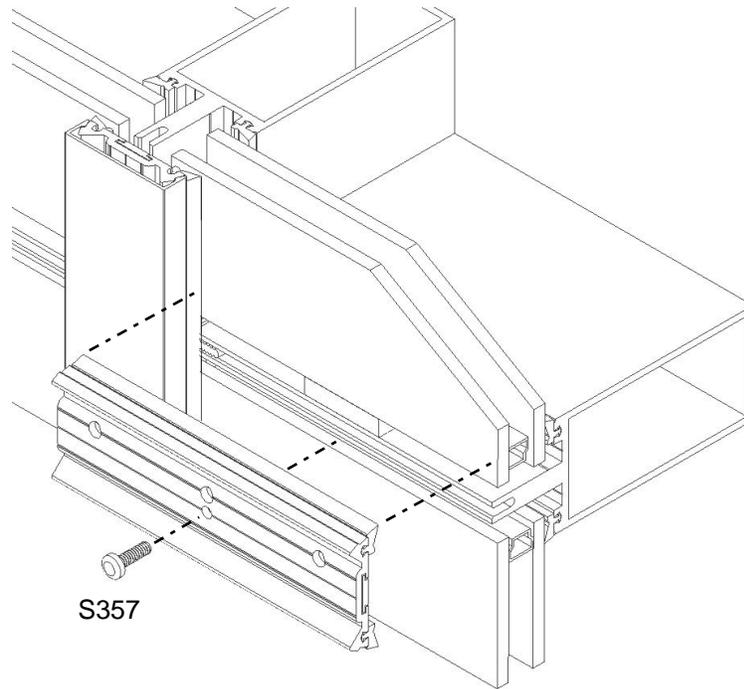

Figure 24: Fasten the horizontal pressure plate into place.
- Fasten the horizontal pressure plate in place with an S357 fastener as shown in Figure 24.